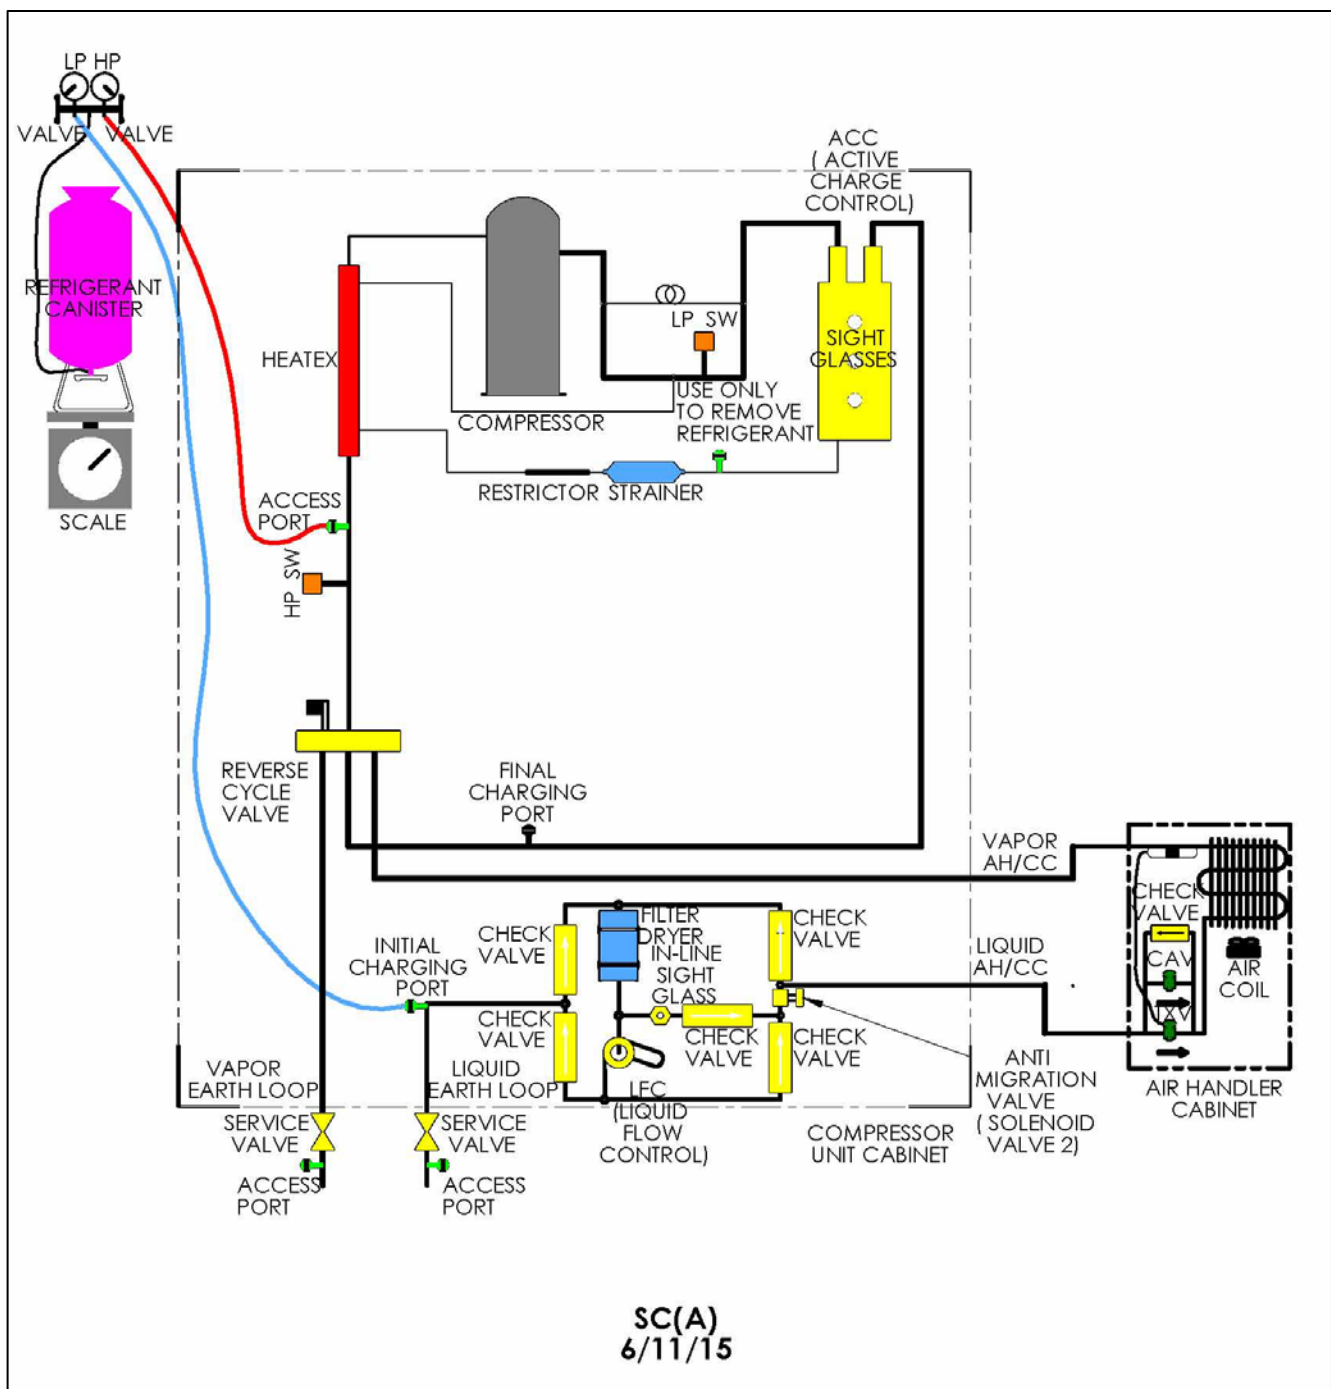

Figure 27. Initial Charge of SC(A) System
1. Disconnect the vacuum pump and isolate the digital vacuum gage. Connect the refrigerant container to the charging hose of the manifold gage set as shown in Figure 27.
2. Place the refrigerant container upside down, with the refrigerant valve at the bottom, on the scale, as shown in Figure 27. Purge the charging hose by loosening it at the manifold end, until refrigerant is released. Tighten the charging hose and zero out the refrigerant scale.